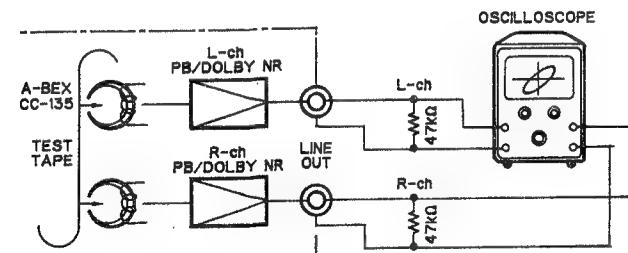

Fig. 2-1
- 1) After completing the tape transport check, load the test tape (A-BEX TCC-153). Fig. 2-1